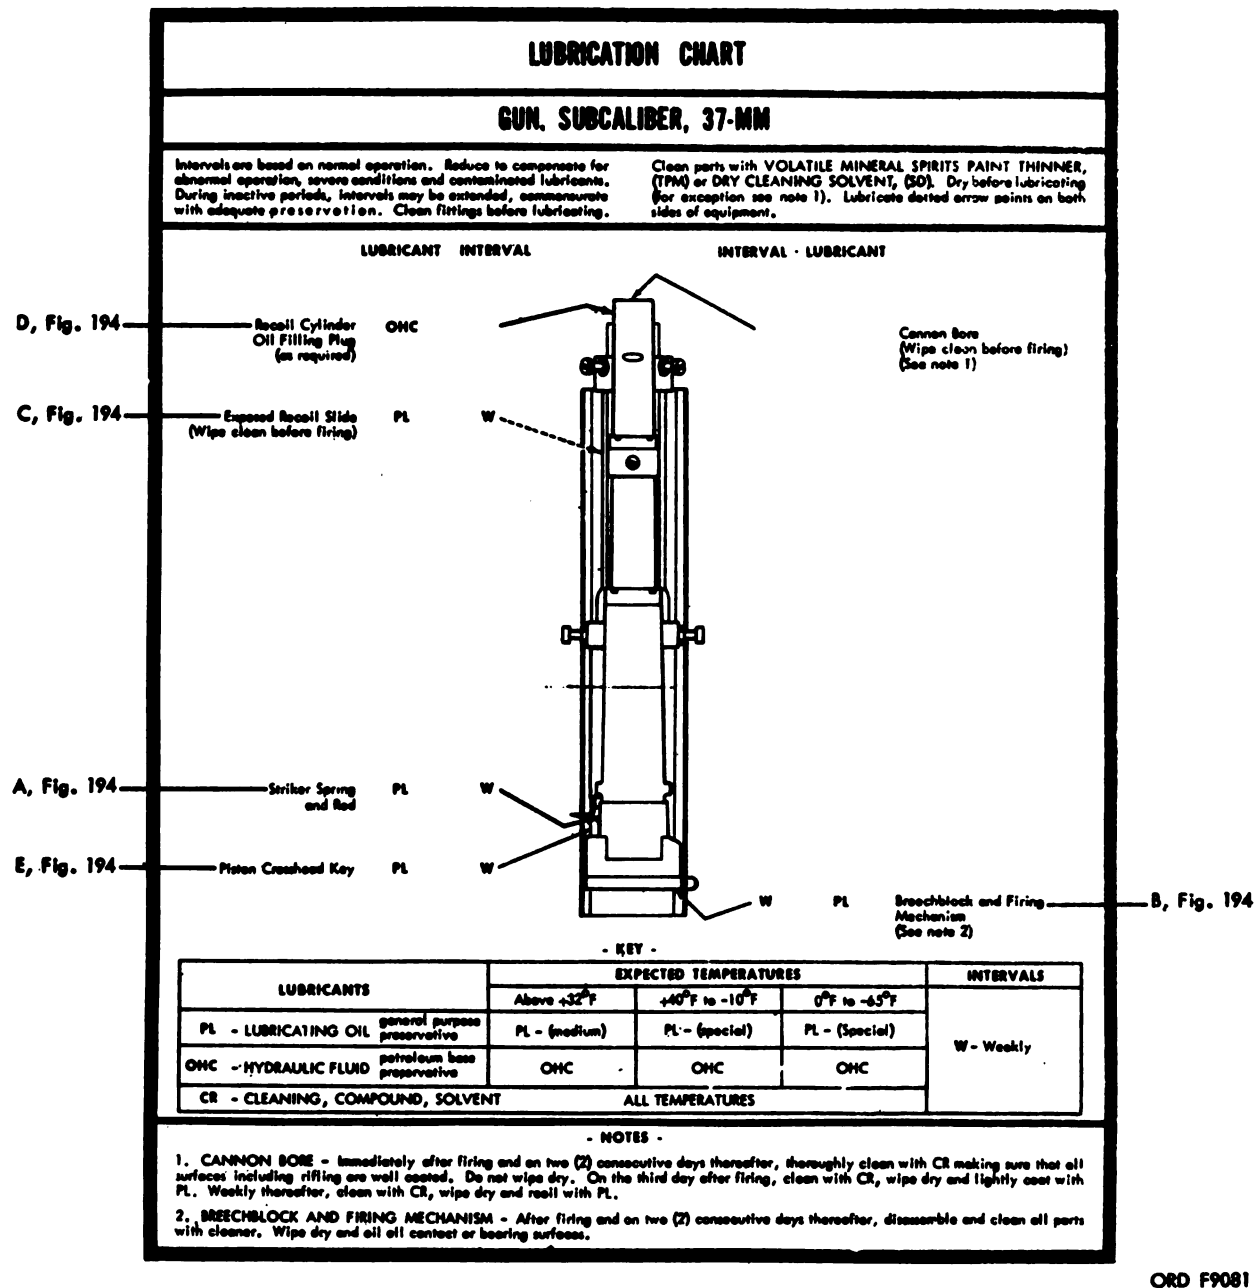

Figure 181. Lubrication chart—37-mm subcaliber gun.
- Refer to lubrication chart (fig. 181) for lubrication of the subcaliber gun and mount.
- Points of application for lubricating the subcaliber gun are shown in figure 182 and are referenced on the lubrication chart (fig. 181).